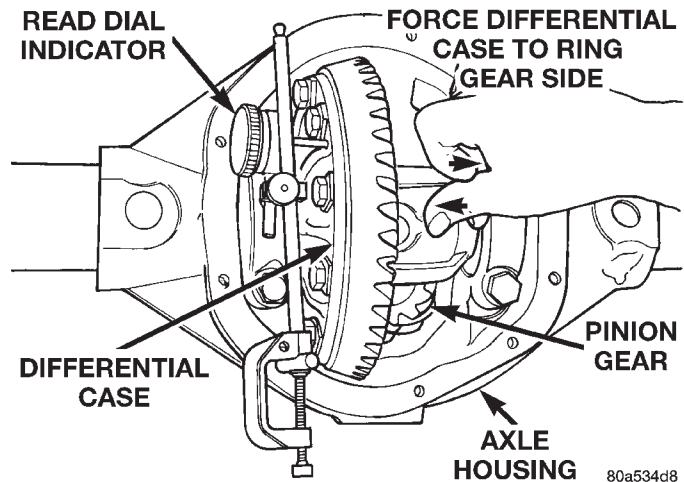

Fig. 69 Hold Differential Case and Read Dial Indicator
(23) Push and hold differential case to ring gear side of the axle housing (Fig. 69).
(24) Record dial indicator reading (Fig. 69).